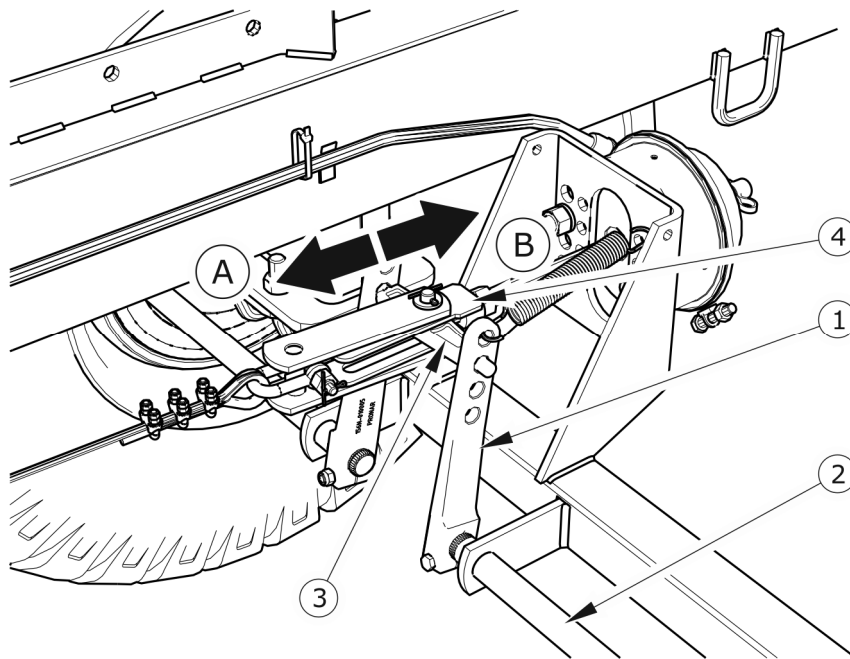

FIGURE 5.4 Drive axle mechanical brakes adjustment
The spreader wheels must brake simultaneously. Brake adjustments consist in changing the location of the expander arm (1) – Figure 5.4 in relation to the expander shaft (2).